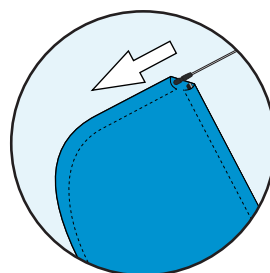

Fig 3.
3. Join the two pieces of carbon fibre rod together. Feed the carbon fibre rod into the top of the sleeve on the curved edge, black tip end first. (Fig 3)